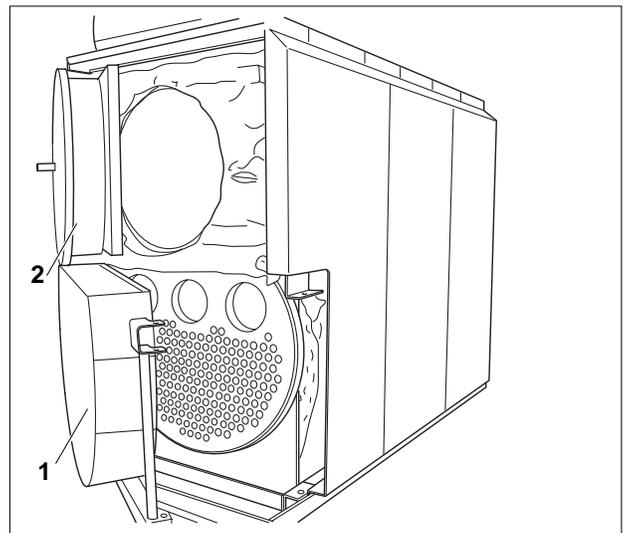

Fig. 29 Open the boiler door
Ensure that the hinge bolts (Fig. 29, **Item. 1** and 2) are in the boiler door and in the reversing door, before opening the doors.
- Loosen the bolts on the reversing door (Fig. 29, **Item. 1**) and pivot the reversing door aside.
- Remove the hexagon bolts from the boiler door (Fig. 29, **Item. 2**) and open the door.